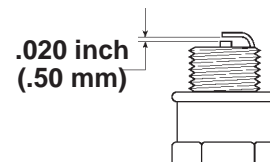

Figure 21
5. Set the gap on the new plug to 0.020 in. (0.50 mm) (Fig. 21).